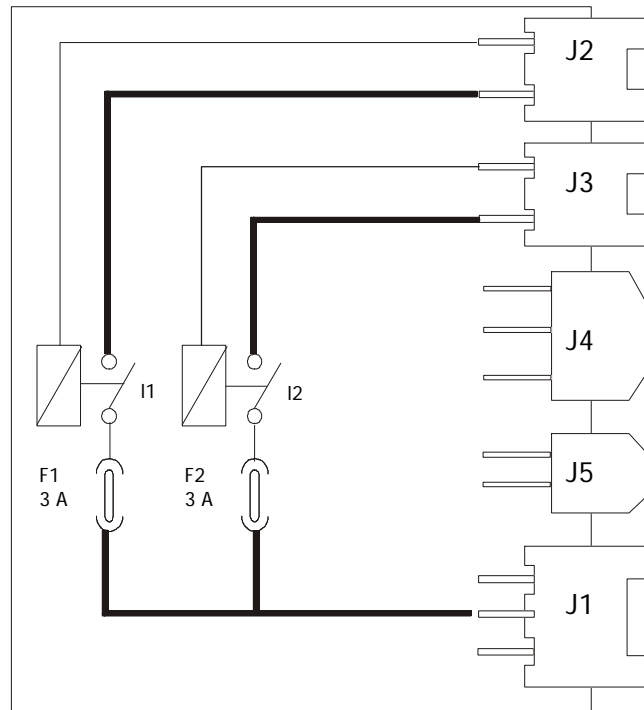

Fig. 8 “Node logic layout”
- J1 Molex "*mini-fit Jr*" code **MLX5569-04** with contacts arranged as follows (also see Fig. 8)